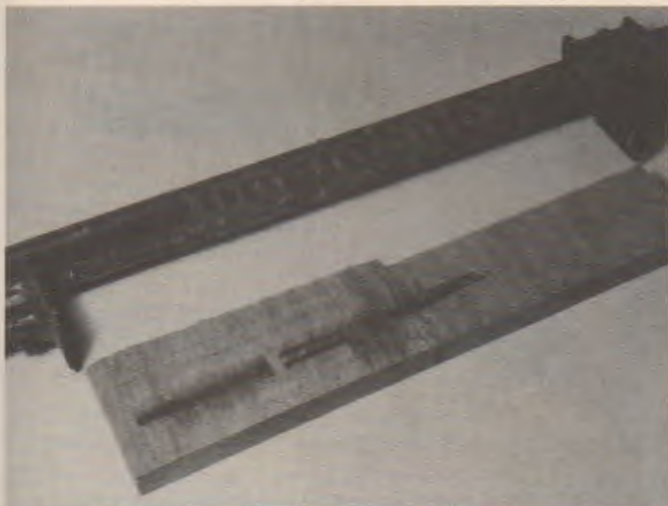

Fig. 33-19. Typical wood stain caused by bar clamp.
6. Cut and place wax paper between clamps or backer blocks and the workpiece at a glue joint. This prevents clamps from being bonded to the assembly. It also retards stain marks caused by glue contact with metal clamps, Fig. 33-19. For wood handscrews, consider coating them with paste wax or silicone spray.